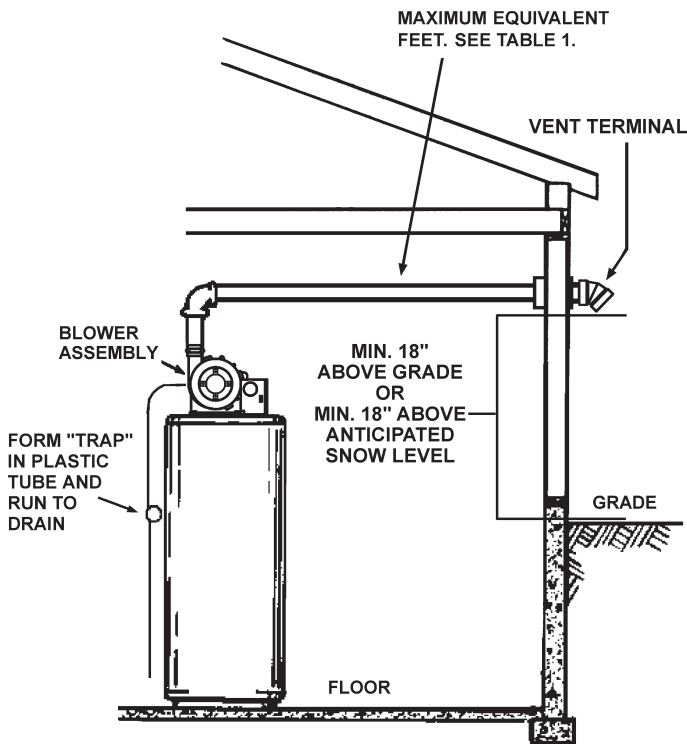

FIGURE 18.
The first step is to determine where the vent pipe will terminate, see Figures 14, 18 and 19. The vent may terminate through the roof as shown in Figure 19 or through a sidewall as shown in Figure 18.
The water heater must be connected to a grounded metal, permanent wiring system; or an equipment grounding conductor must be run with the circuit conductors and connected to the equipment grounding terminal or lead on the water heater, see Figure 18.
1. Vent Termination must extend a minimum of 18 inches (46 cm) above roof or 18 inches (46 cm) above the anticipated snow level to prevent blockage of the vent termination, as shown in Figures 18 and 19.
2. The venting system shall terminate at least four (4) feet (1.2 m) from or one (1) foot (30 cm) above any gable, dormer or other roof structure with building interior access; i.e., vent, window, etc.
3. The venting system shall terminate three (3) feet (91 cm) above any forced air inlet located within ten feet (3.0 m).